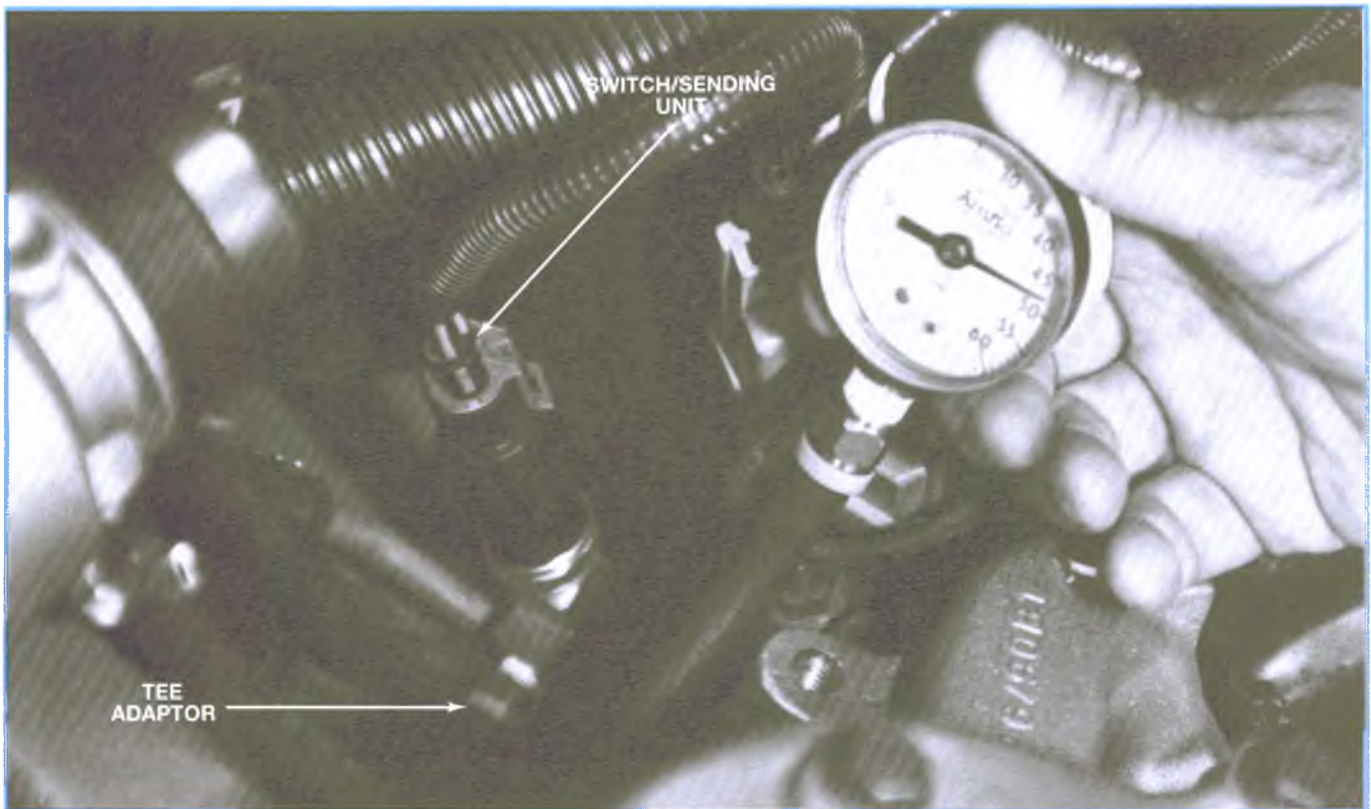

Figure 3-17, Oil Pressure Check (1)
4. Connect a pressure gauge that reads from 0 to 1034 kPa (0 to 150 psi) to the tee adaptor (see Figure 3-17).